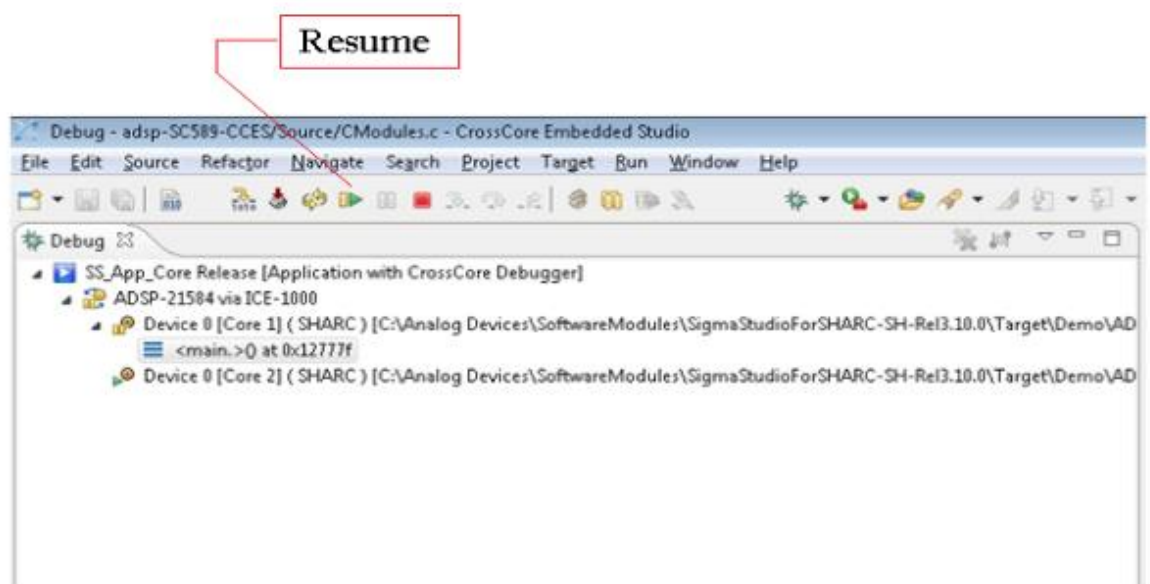

Figure 19 Debug Configuration (Resume)
8. Reset the board and press 'Debug' to launch the debug session. Click on "Resume" to run Core 1(SHARC). This enables the Core 2 (SHARC). Then individually select and run Core Core 2 by clicking on "Resume" as shown in Figure 19.